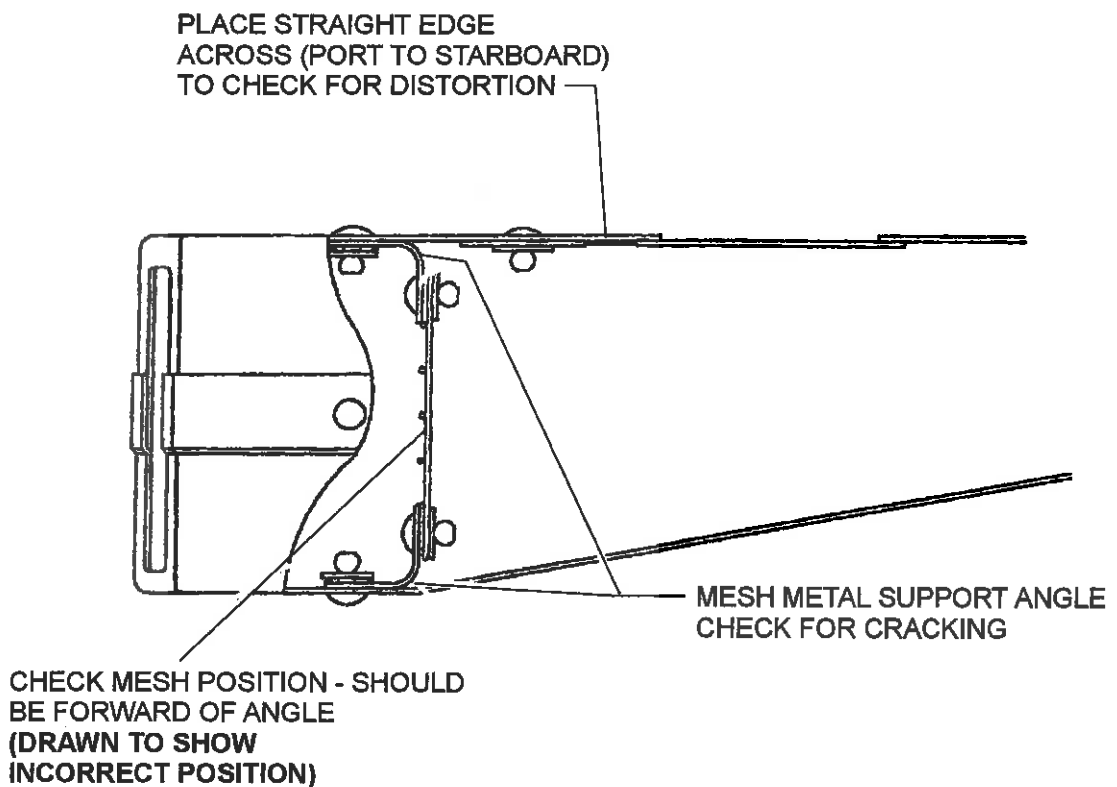

FIGURE 2 AIR INTAKE DUCT T67M-50-103
5. Post Mod M760, Part No. T67M-50-103, Ref. Figure 2: